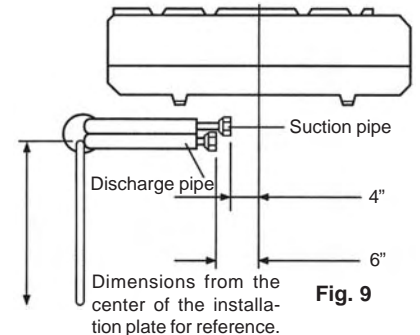
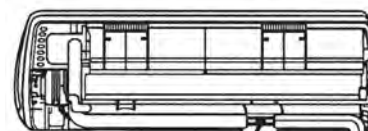

Fig. 9
Fig. 10
1. Regarding the left rear sided and left sided piping, the pipes must be connected indoors and must be adjusted to the actual installing length. Keep these pipes unrolled (See Fig. 9 and Fig. 10)
(See Fig. 10) After the leak test, wrap the flared joints with insulation and fix it with bands.